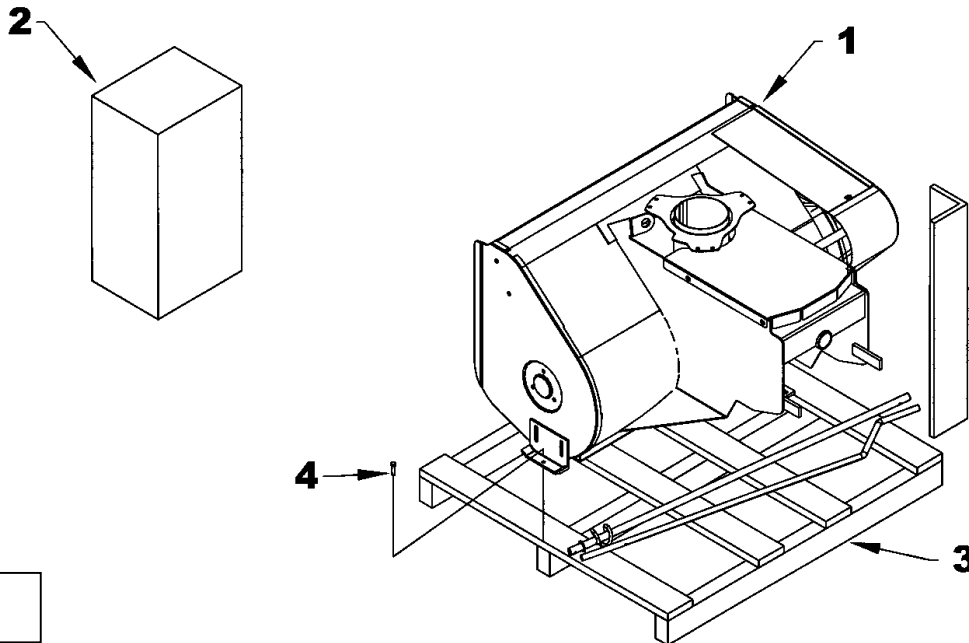

Figure 1
Step 1: Preparation (Figure 1)